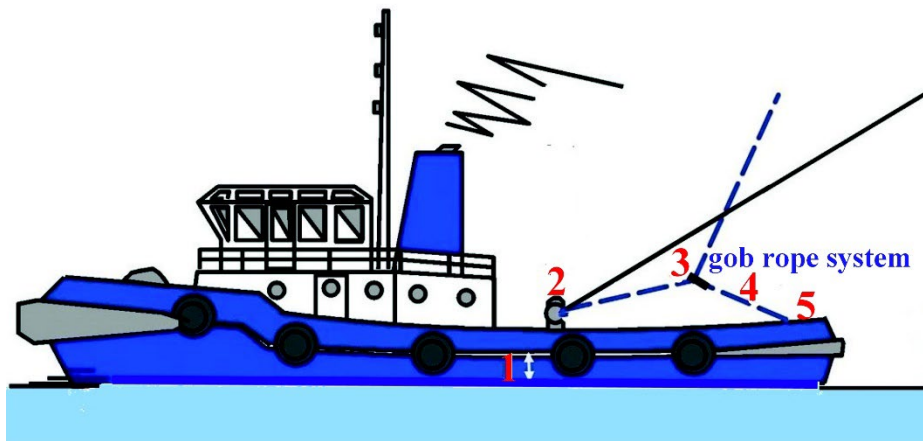

Figure 3
Further important aspects. See Figure 3.
2.2 Always important is tug stability and freeboard. See Figure 3, nr. 1. The smaller tug's stability and freeboard, the further the speed should be below 3 knots when carrying out manoeuvres with the gob rope.
3. *Towing hook* (Figure 3, nr. 2)
4. *Quick release hook* (Figure 3, nr. 2)
5. *The gob rope connection to the towline* (Figure 3, nr. 3)
6. *The length of the gob rope* (Figure 3, nr. 4)
7. *Location fairlead aft* (Figure 3, nr. 5)